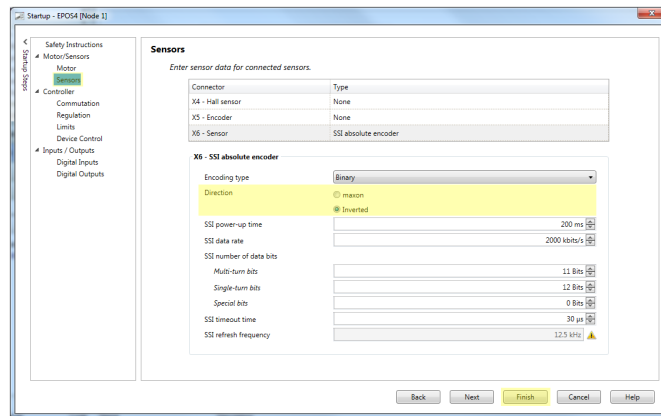

Figure 8-128 Adjustment of SSI commutation offset value | Toggle sense of rotation
d) If the indication decreases, open the «Startup» wizard \ «Motor/Sensors» and select «Sensors». Toggle the sense of rotation by changing the active checkbox «Direction» (→Figure 8-128). Click «Finish» to close the wizard and verify the correct setting as described above.